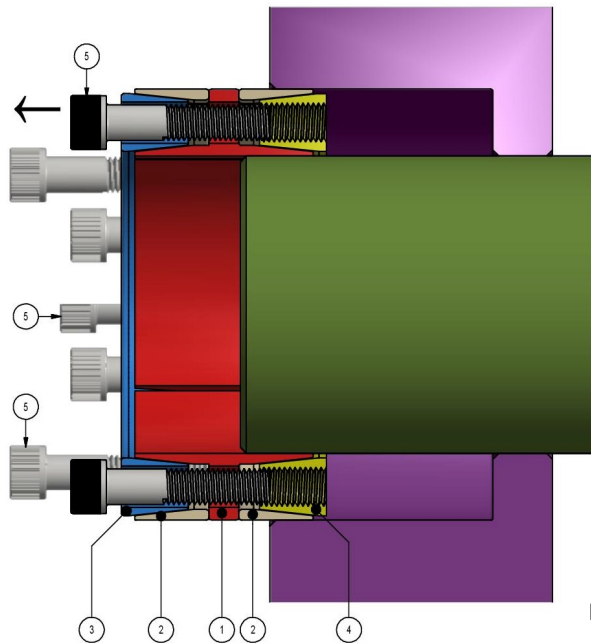

Fig. 6. Removal of Locking Assembly.
- Hold the head of some screws still engaged in the rear thrust ring. Pull out these screws in order to remove locking rings all together from hub bore (fig. 6).